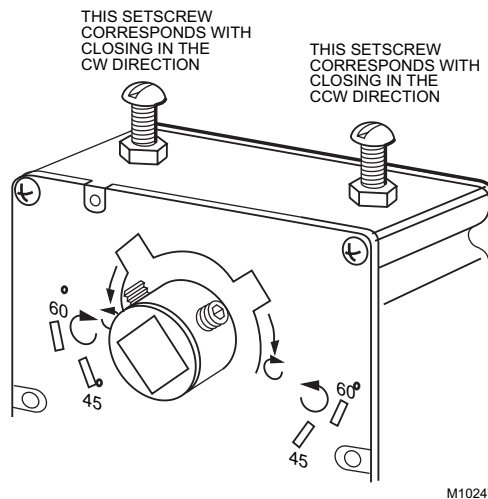

Fig. 9. Setscrew location for ML6161 and ML6174.
Certain ML6161, ML6174 and all ML7161, ML7174 models are equipped with two tapped holes located in the plastic housing at the top of the actuator. These holes can be used with the minimum position setscrew and locknut inside the 4074ENJ Bag Assembly (see Fig. 9). The setscrew provides for a 0° to 30° minimum position adjustment.
3. Determine the correct hole for the setscrew using Fig. 9 and the results of step 1.